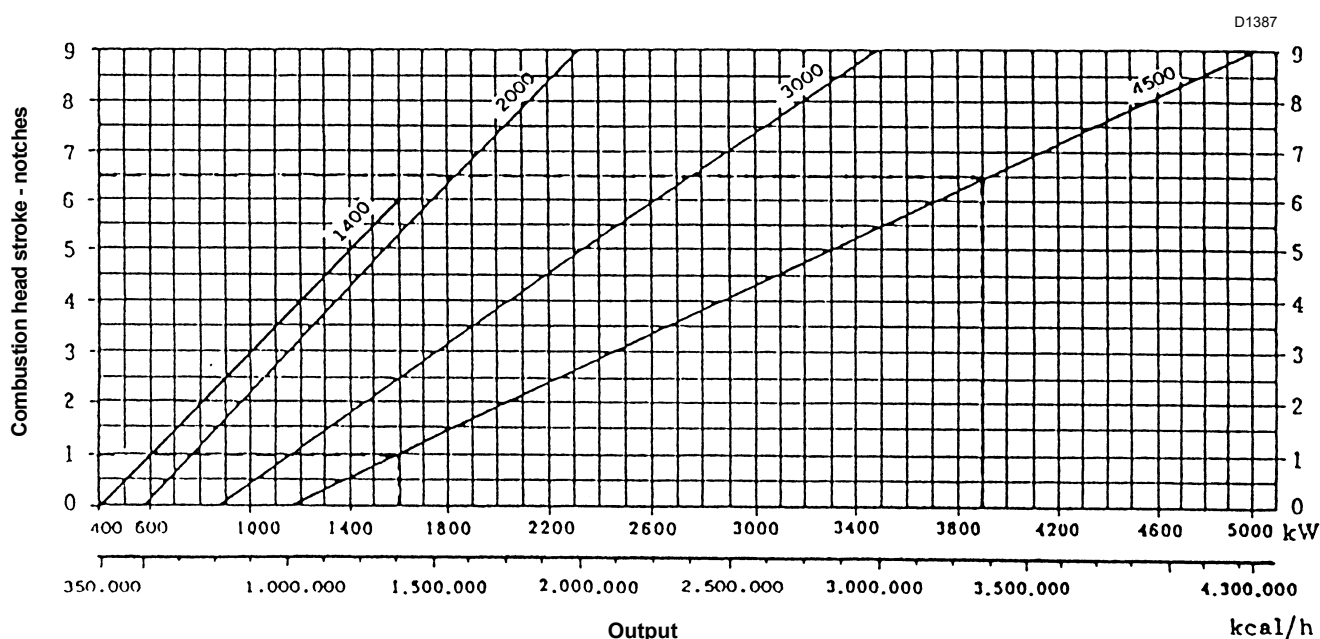

Fig. 16
To obtain a different modulation range, calibrate these levers again so that the stroke of the head is as in the diagram (Fig. 16).
- If difficulties persist, set the combustion head to the minimum on notch 2 ÷ 3, keeping the adjustment of the maximum delivery as in the diagram (Fig. 16).